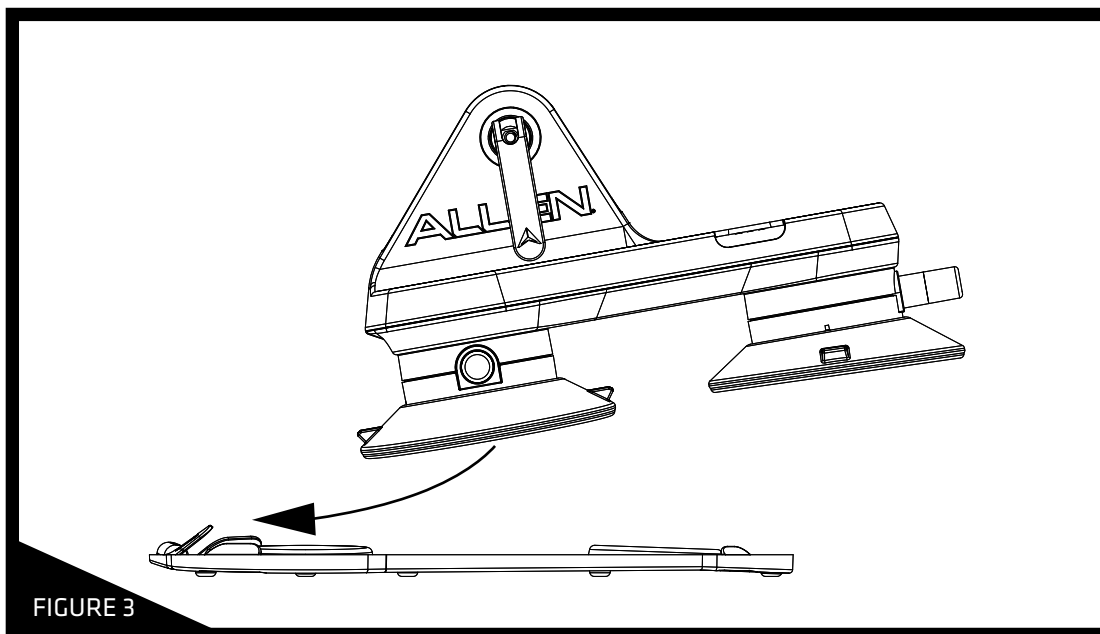

FIGURE 3
STEP 3: Replace the red protective suction cup cover. Reattach the front two cups first by lowering the Front Assembly into place as shown in **Figure 3**.